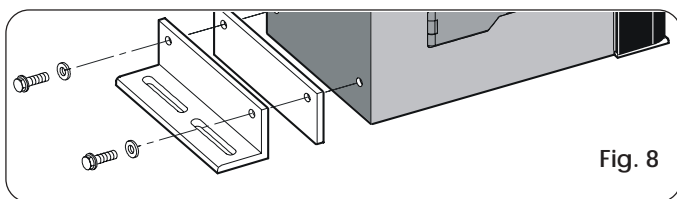

Fig. 8
- 1) Assemble, on the operator, the securing corners and the anti-vibration spacers as shown in Fig. 8.